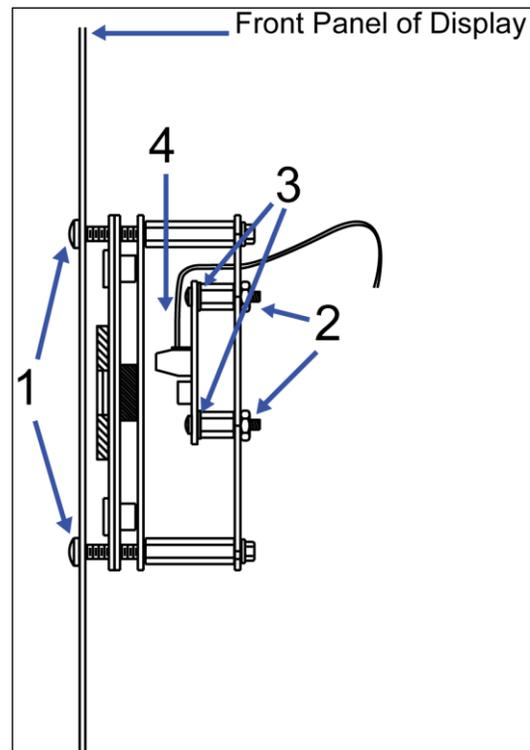

Figure 37: Light Sensor Assembly
1. Remove the screws that hold the light sensor to the cabinet. Refer to **Figure 37**.